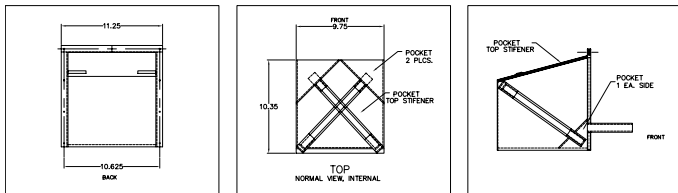

Figure A.1: Rain hood stiffener pockets
4. Fold both supports out and re-insert them into the two pockets, shown in Figure A.1, in the lower corners of the soft side flaps. This will hold the rain hood fully open for use, which is necessary for proper cooling of the MILO loudspeaker's electronics.